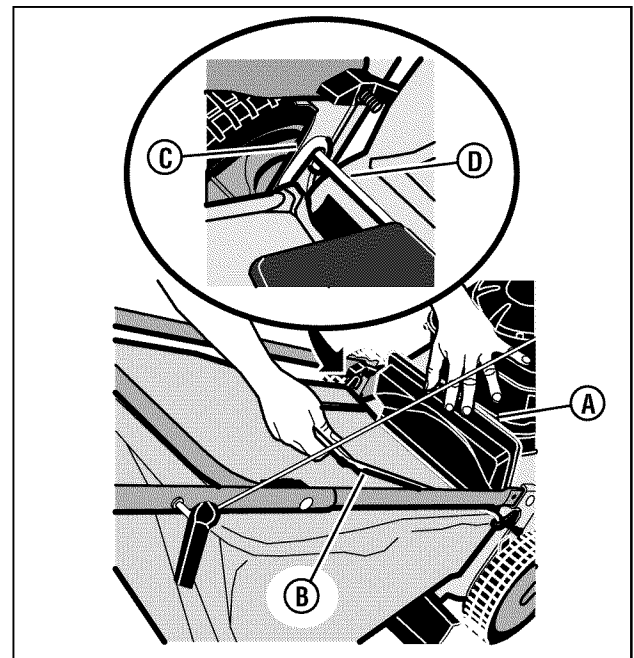

Figure 8: Mounting the grass bag
1. To mount the grass bag on the mower, raise the rear door **(A, Figure 8)**. Holding the grass bag by the handle **(B)**, mount the hooks **(C)** on either end of the grass bag frame assembly onto the rear door pivot rod **(D)**. Lower the grass bag against the rear of the mower. Lower the rear door.